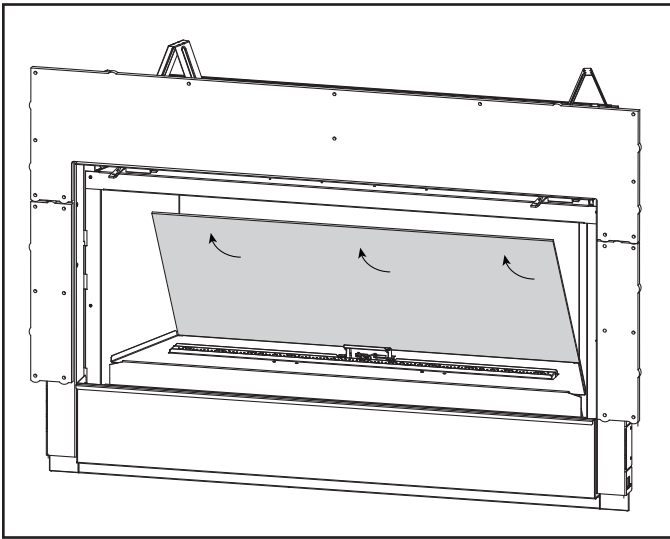

Figure 2. Placement of Rear Glass Panel
4. **Rear Panel:** Install back glass panel as shown in Figure 2. Ensure the smooth side is facing toward the front of the fireplace. Set the back panel tight against the flange of the basepan and tilt the glass up toward the back of the firebox. Back panel will be held in place by the side panels. Hold back panel in place while installing the left and right panels.